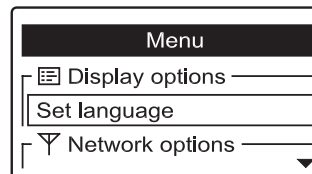

FIG. 95
1. If no device has been added to the remote, the menu shown in Figure 95 is displayed instead of status screens. In this case, skip to step 2. Otherwise, if status screens are shown, press the remote's SELECT (○) button to display a **Menu** screen (See Figure 95).